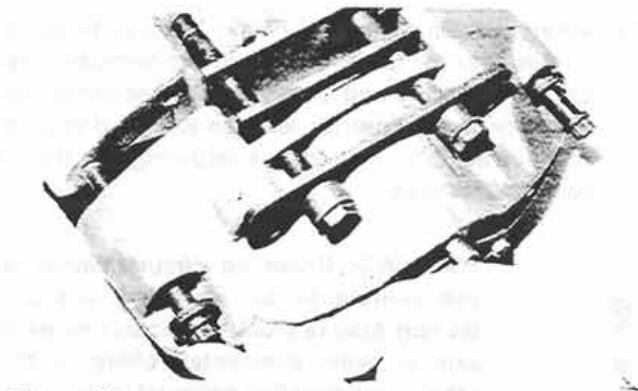

Figure 23:
11. Install the carrier side casting onto the pins and secure it by installing two of the twelve-point retaining bolts with washers at the outermost two holes of the caliper assembly (Fig. 23). Tighten only after all bolts have been started.